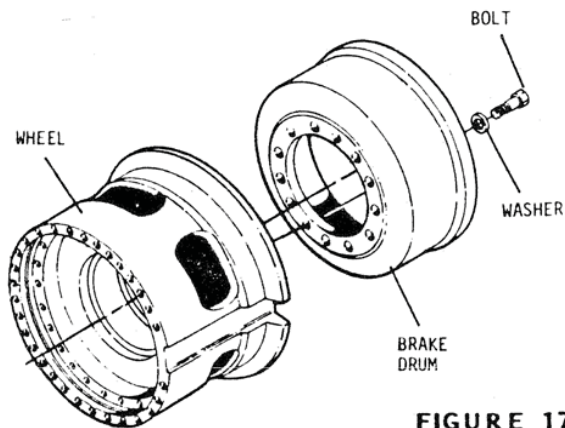

FIGURE 17
5. Mount the brake drum (Figure 17) to the drive wheel. The mounting surface of the brake drum and mating surface of the wheel should be clean and free of paint.